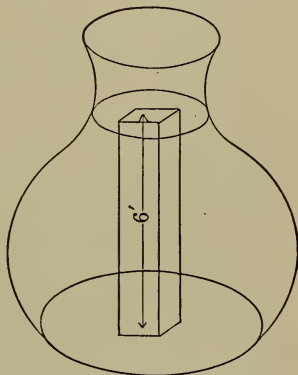

FIGURE 290. — PRESSURE IN AN IRREGULAR SHAPED OPEN VESSEL.
**Problem:** Find the pressure on the bottom of the irregular vessel filled with water. (Figure 290.)